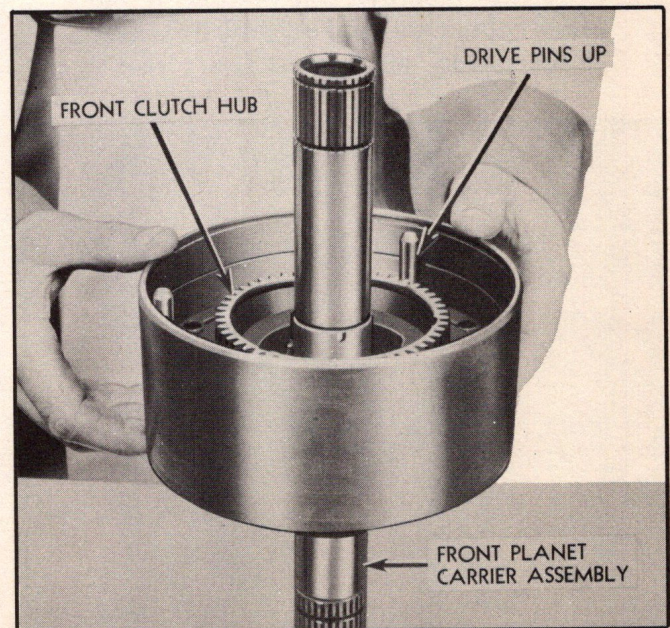

Fig. 236—Assembling Front Unit Drum to Planet Carrier
2. Place front unit drum over hub to rest on pinion gears with drive pins up (Fig. 236).